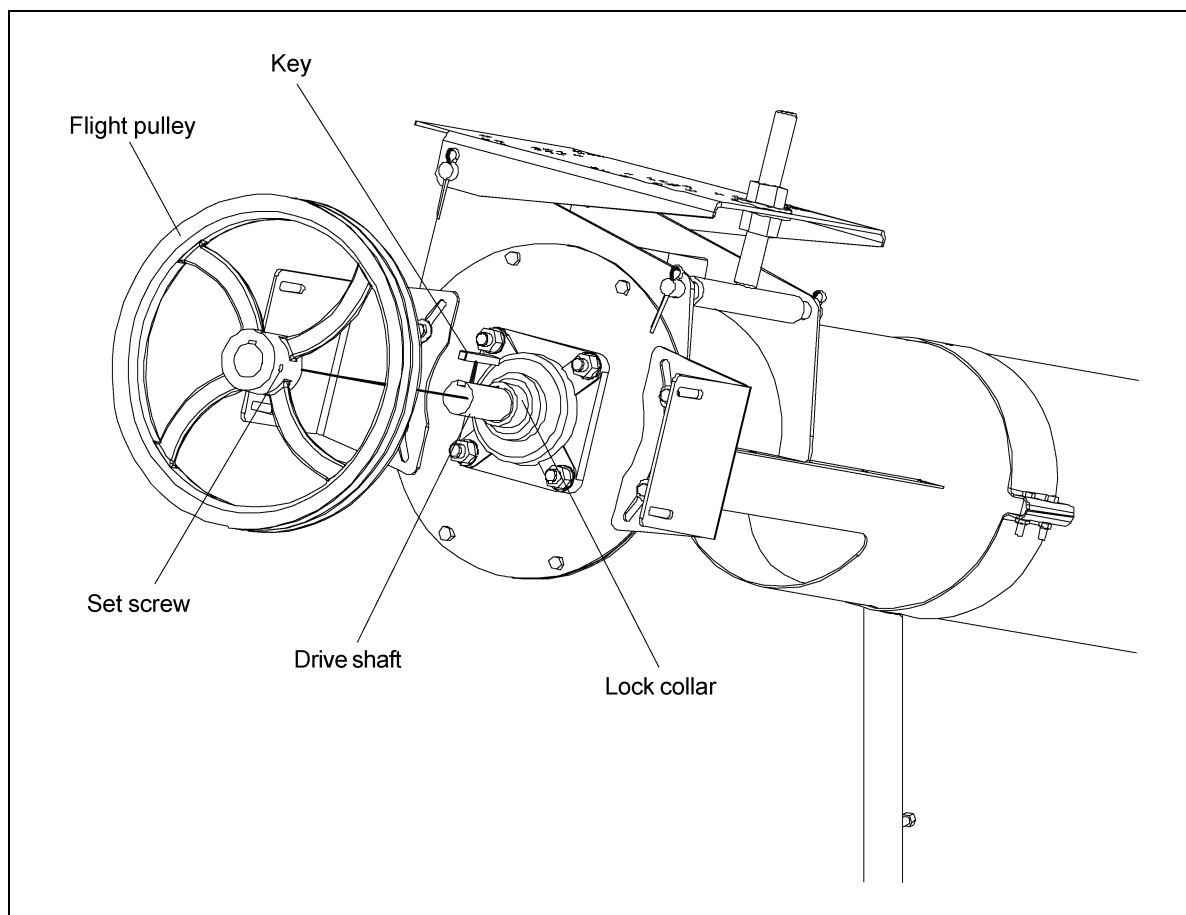

Figure 4I
2. Place the pulley onto the drive shaft with the set screw side of the pulley facing away from the bearing plate. (See Figure 4I.) Position the pulley so that it is as close to the lock collar as possible, but without touching it.
3. Once the pulley is appropriately positioned, tighten the set screw with a hex head wrench to secure it to the drive shaft. (See Figure 4I.)